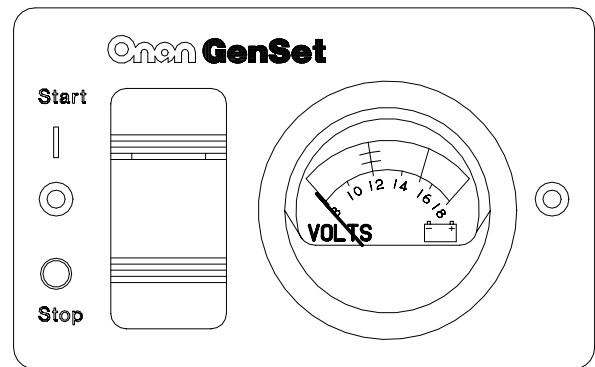

FIGURE 8. START/STOP SWITCH WITH BATTERY DC VOLTMETER
- Remote panel with start/stop switch, indicator lamp, and battery DC voltmeter (see Figure 8).